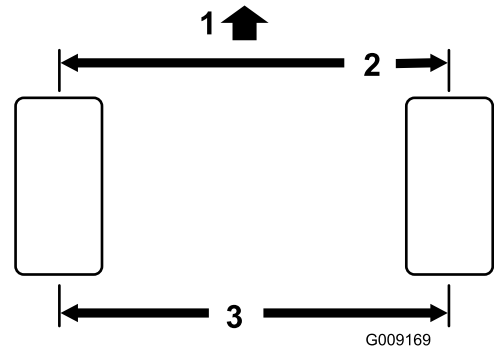

Figure 47
1. Measure the center-to-center distance (at axle height) at the front and rear of the steering tires. The front measurement must be 3 mm (1/8 inch) less than the rear measurement (Figure 47).